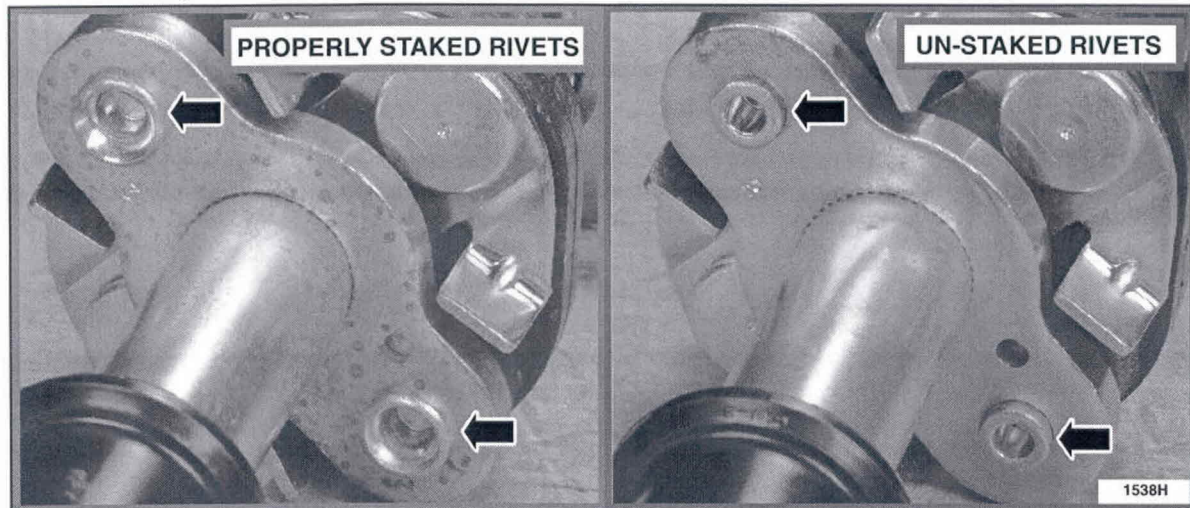

FIGURE 2
- A rivet that is properly staked will have a pressed/convex shape at the tail end of the rivet and will not allow the 10 mm (3/8 in) open-end wrench to fit over the staked (tail) end. See Figures 2 and 3.
- A rivet that is not staked will have a cylindrical or barrel shape at the tail end, may not be fully seated, and will allow the 10 mm (3/8 in) open-end wrench to fit over the (tail) end. See Figures 2 and 3.